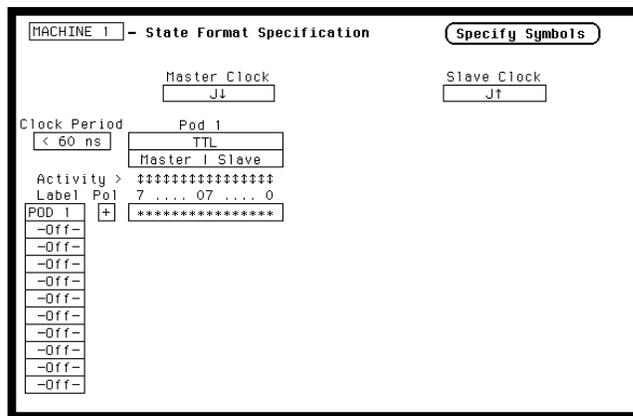

Figure 3-27. State Format Specification for Data Test 6
- Set up **State Format Specification** as in figure 3-27, assigning the falling J clock as **Master Clock** and the rising J clock as **Slave Clock**. Refer to steps a through d after figure if unfamiliar with the menus.